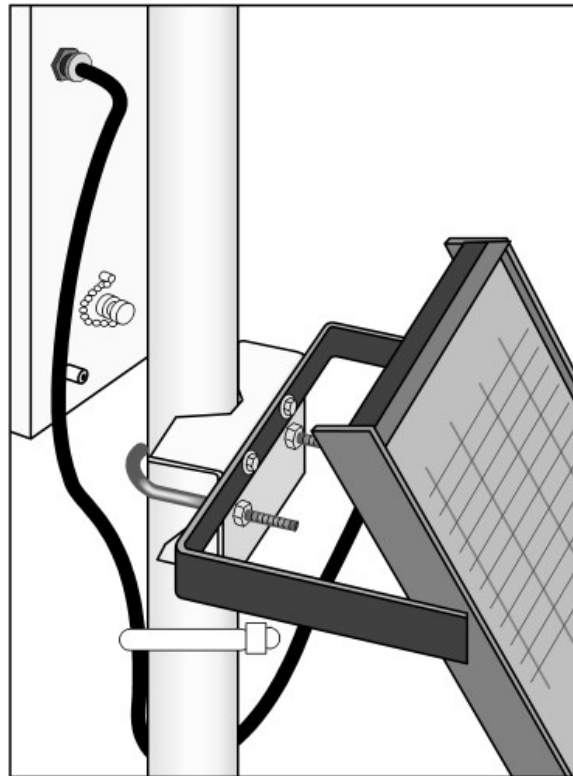

FIGURE 6-42. Solar panel mounting and cabling
1. Mount the solar panel to the pole using the mounting brackets (FIGURE 6-42 (p. 61)).